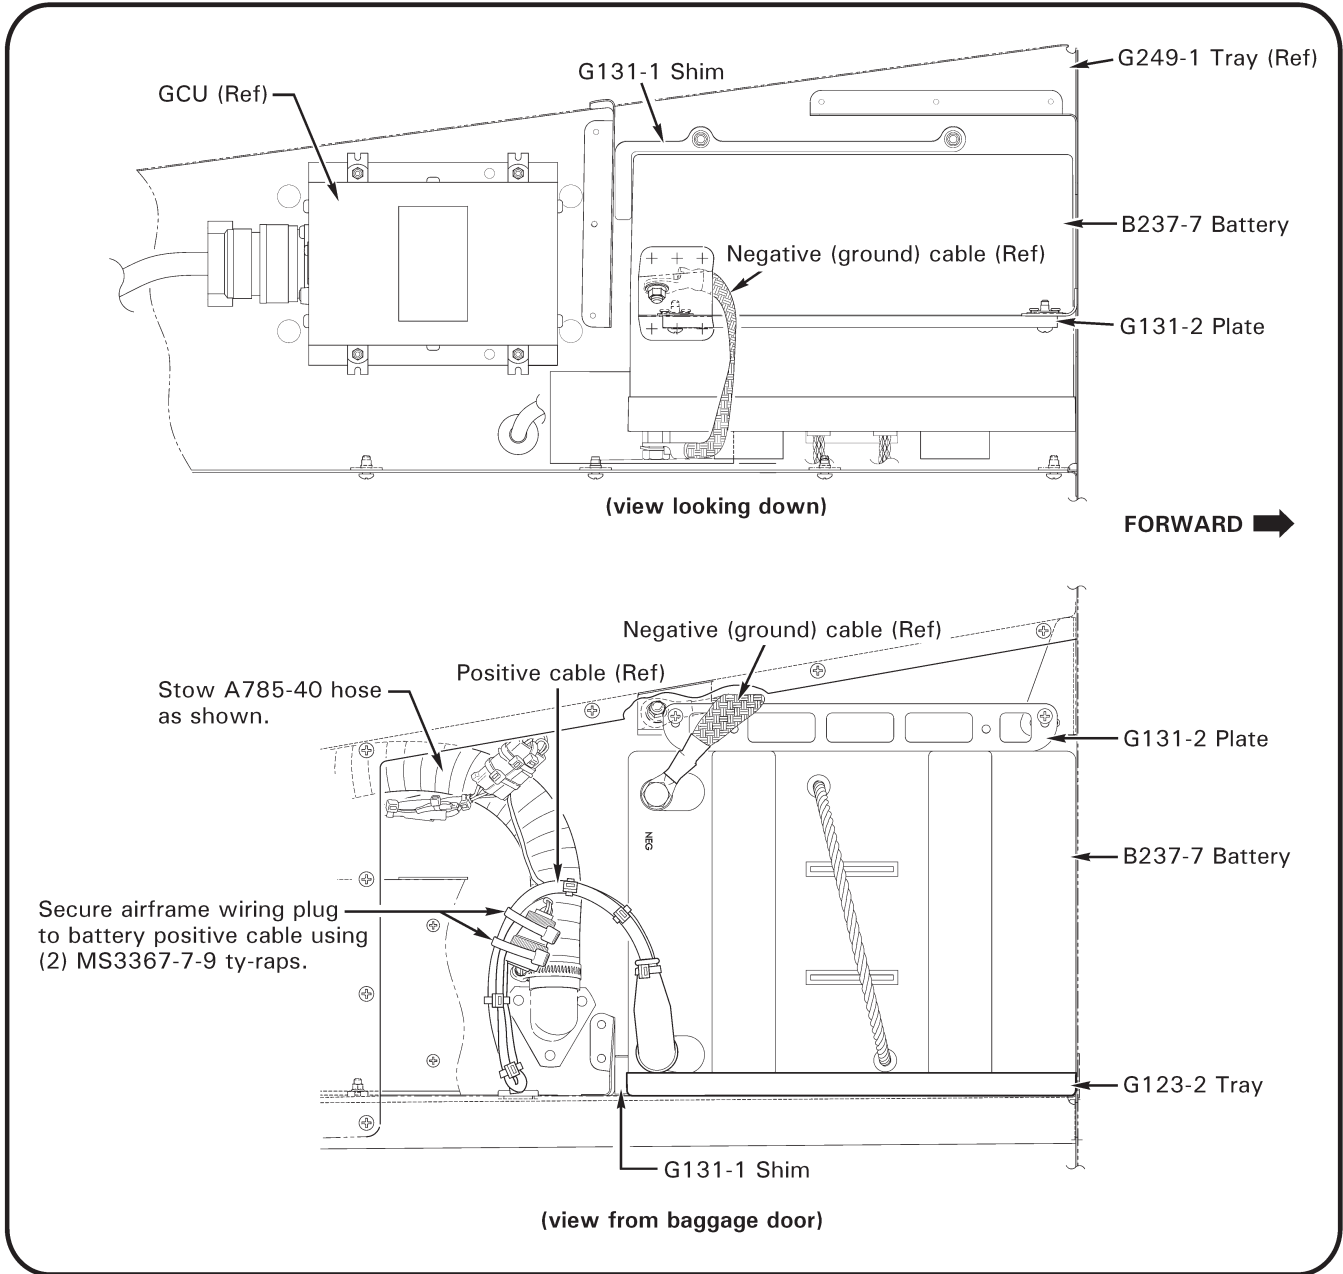

FIGURE 2A
5. Refer to Figure 2A and 2B. Stow A785-40 hose as shown.
8. Refer to Figure 2A. Secure airframe wiring plug using two MS3367-7-9 ty-raps as shown.